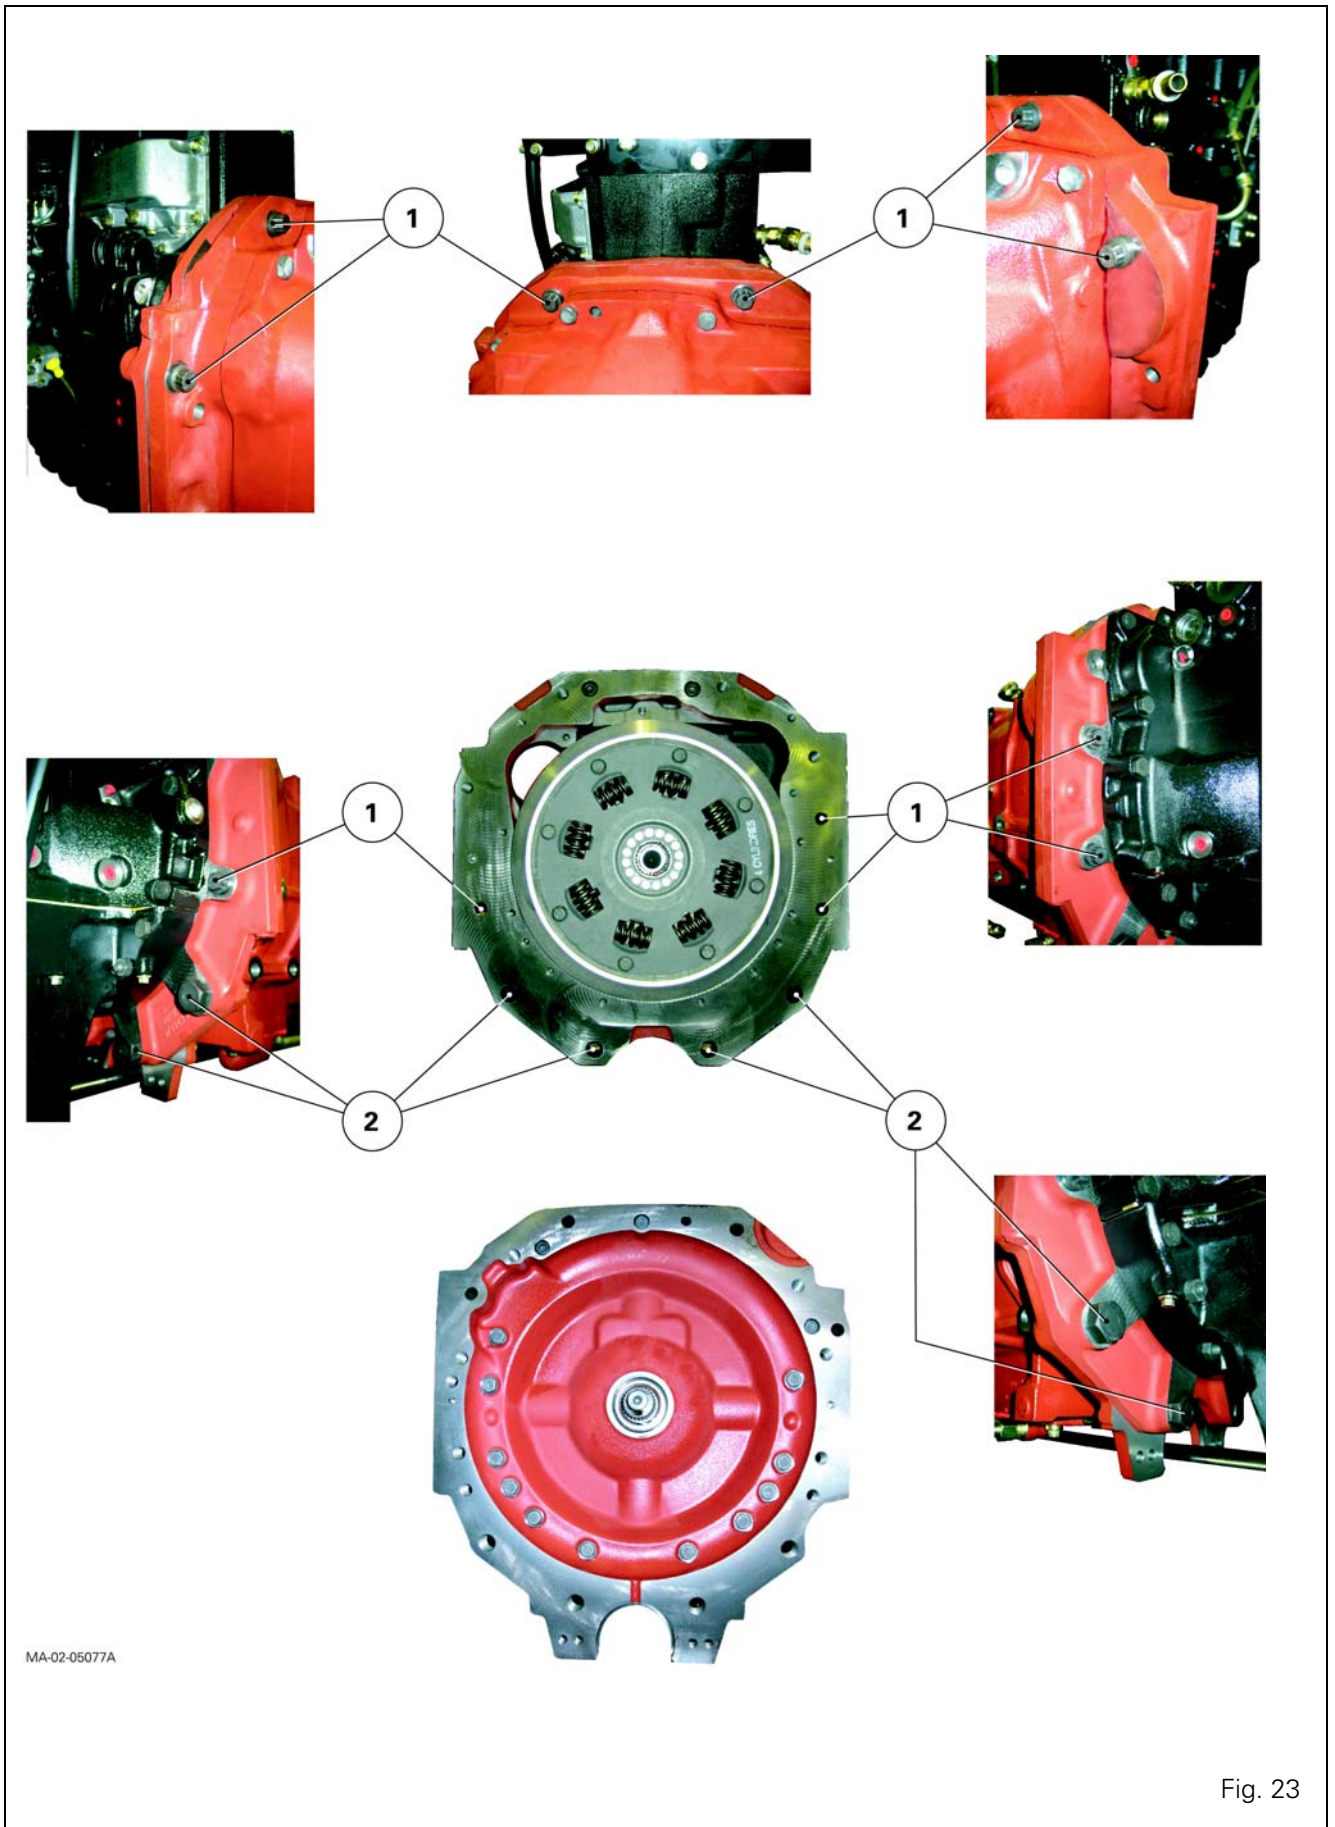

Fig. 23
50. Remove the screws attaching the engine to the gearbox (Fig. 23).